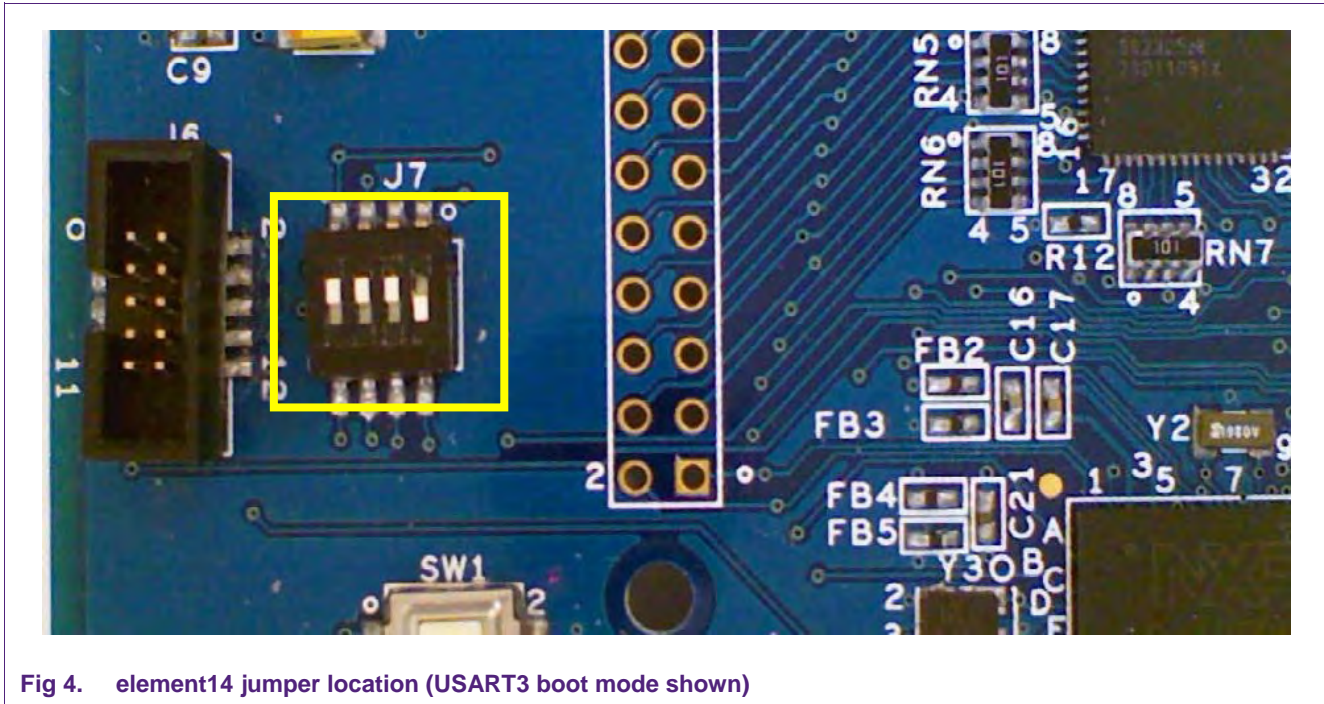

Fig 4. element14 jumper location (USART3 boot mode shown)
- Fig 4. element14 jumper location (USART3 boot mode shown)7